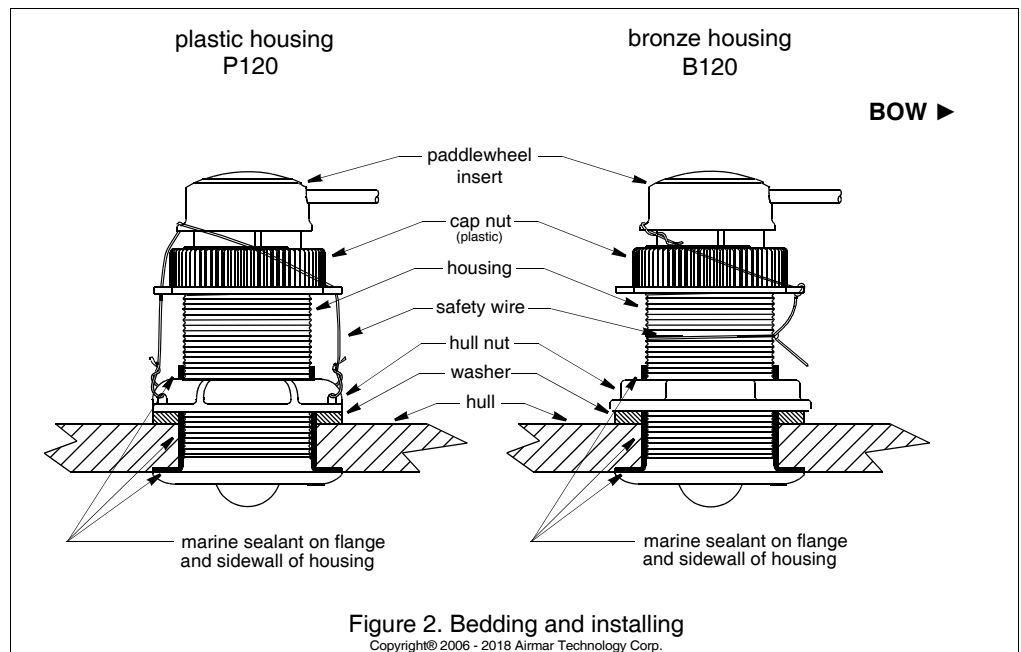

Figure 2. Bedding and installing
Apply a 2mm (1/16") thick layer of marine sealant around the flange of the housing that will contact the hull and up the sidewall of the housing (Figure 2). *The sealant must extend 6mm (1/4") higher than the combined thickness of the hull, washer(s), and hull nut.* This will ensure there is marine sealant in the threads to seal the hull and hold the hull nut securely in place.
1. From outside the hull, push the housing into the mounting hole using a twisting motion to squeeze out excess marine sealant (Figure 2). *Align the arrow on the flange of the housing to point forward toward the bow.* If the sensor is not installed on the centerline, angle the housing slightly toward the centerline to align it with the water flow.
2. Remove the insert from the housing by removing the safety wire from the cap nut (Figure 2). Unscrew the cap nut to lift the insert. Remove the insert with a slow pulling motion.
5. Push the blanking plug into the housing. Screw the cap nut several turns until the threads are engaged. *Rotate the blanking plug until the key fits into the notch in the housing.* Continue to tighten the cap nut. **Hand tighten** only. Do not over tighten. Reattach the safety wire (Figure 2).
8. Slide the insert/blanking plug into the housing with the arrow on the top pointing forward toward the bow (Figure 2). Screw the cap nut several turns until the threads are engaged. *Rotate the insert (or the blanking plug) until the key engages the notch in the housing.* Be sure the arrow on the top is facing forward toward the bow. Continue to tighten the cap nut. **Hand tighten** only. Do not over tighten.